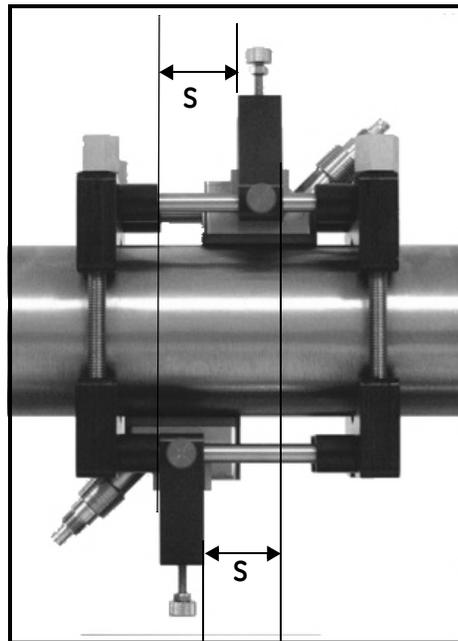

Figure 1-11: V4 Fixture, Top View
The overall spacing between yokes should be left edge to left edge, or right edge to right edge. Figure 1-11 below shows typical positioning.
4. In a similar manner, install the second transducer as shown in Figure 1-11 above.